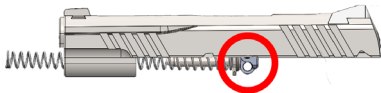

Figure 42
- Grasp the slide with the installed recoil spring assembly, allowing the barrel link to be vertical – Figure 42.